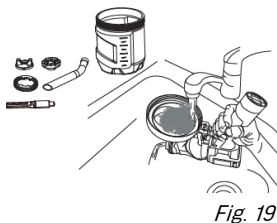

Fig. 19
17. If using a water-based material, clean the sprayer by running water through the pickup tube (Fig. 19).